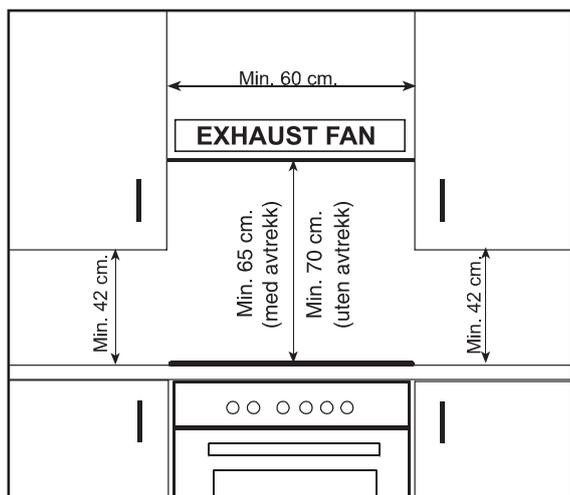

Figure 10
- Required changes to wall cabinets and exhaust fans above the built-in combined product as well as minimum height from the oven board are show in Figure 10.